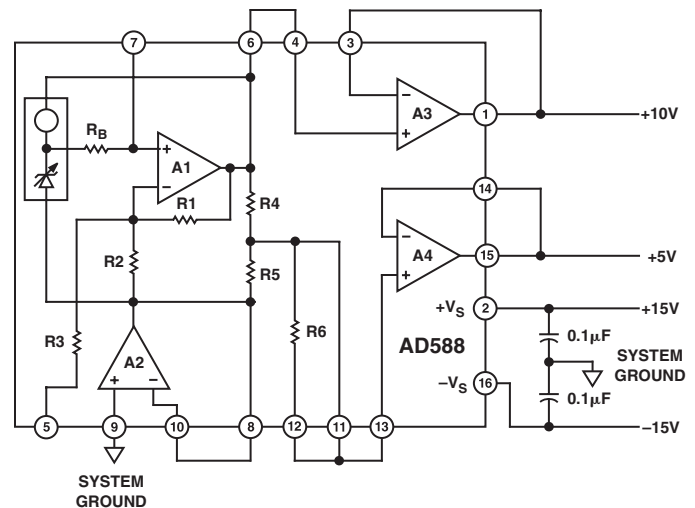
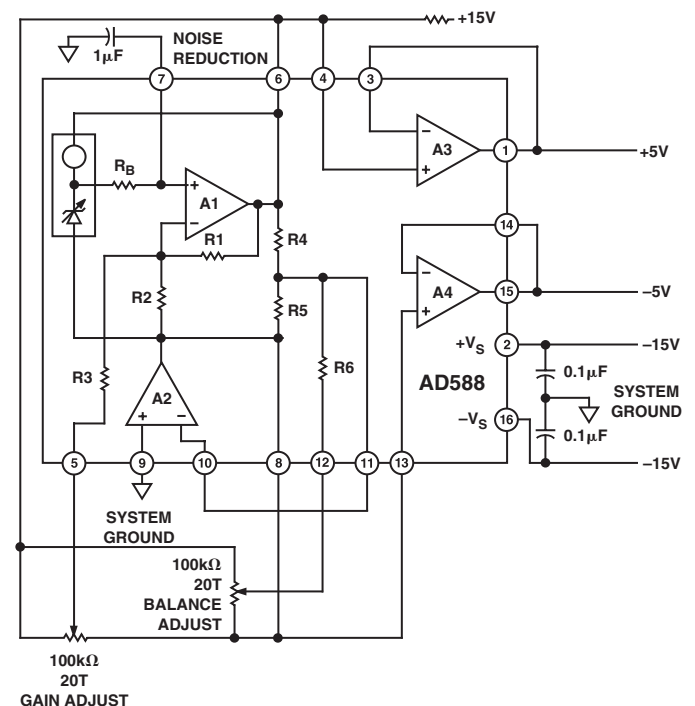
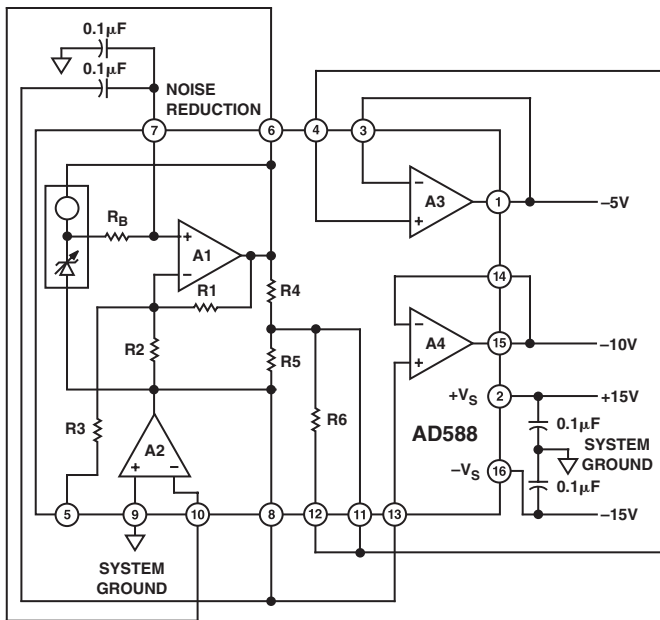
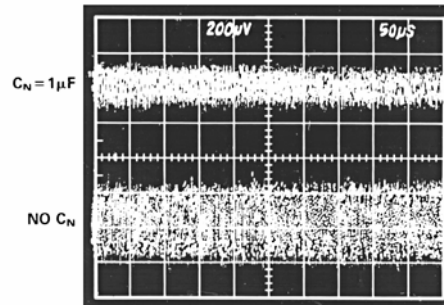

Figure 2a. +10 V Output
Figure 2b. +5 V and -5 V Outputs
Figure 2c. -10 V Output
Figure 4. Effect of 1 μF Noise Reduction Capacitor on Broadband Noise
+10 V	Figure 2a
-10 V	Figure 2c
+5 V, -5 V, ±5 V	Figure 2b
The AD588 can be configured to provide +10 V and -10 V reference outputs as shown in Figures 2a and 2c, respectively. It can also be used to provide +5 V, -5 V, or a ± 5 V tracking reference, as shown in Figure 2b. Table I details the appropriate pin connections for each output range. In each case, Pin 9 is connected to system ground and power is applied to Pins 2 and 16.
The architecture of the AD588 provides ground sense and uncommitted output buffer amplifiers that offer the user a great deal of functional flexibility. The AD588 is specified and tested in the configurations shown in Figure 2a. The user may choose to take advantage of the many other configuration options available with the AD588. However, performance in these configurations is not guaranteed to meet the extremely stringent data sheet specifications.
As indicated in Table I, a +5 V buffered output can be provided using amplifier A4 in the +10 V configuration (Figure 2a). A -5 V buffered output can be provided using amplifier A3 in the -10 V configuration (Figure 2c). Specifications are not guaranteed for the +5 V or -5 V outputs in these configurations. Performance will be similar to that specified for the +10 V or -10 V outputs.
Amplifiers A3 and A4 can be used interchangeably. However, the AD588 is tested (and the specifications are guaranteed) with the amplifiers connected as indicated in Figure 2a and Table I. When either A3 or A4 is unused, its output force and sense pins should be connected and the input tied to ground.
Figure 2b shows GAIN and BALANCE trims in a +5 V and -5 V tracking configuration. A 100 kΩ 20-turn potentiometer is used for each trim. The potentiometer for GAIN trim is connected between Pin 6 (V_{HIGH}) and Pin 8 (V_{LOW}) with the wiper connected to Pin 5 (GAIN ADJ). The potentiometer is adjusted to produce exactly 10 V between Pin 1 and Pin 15, the amplifier outputs. The BALANCE potentiometer, also connected between Pin 6 and Pin 8 with the wiper to Pin 12 (BAL ADJ), is then adjusted to center the span from +5 V to -5 V.
If further noise reduction is desired, an optional capacitor, C_N , may be added between the NOISE REDUCTION pin and ground, as shown in Figure 2b. This will form a low-pass filter with the 4 k Ω R_B on the output of the Zener cell. A 1 μF capacitor will have a 3 dB point at 40 Hz and will reduce the high frequency (to 1 MHz) noise to about 200 μV p-p. Figure 4 shows the 1 MHz noise of a typical AD588 both with and without a 1 μF capacitor.
Note that a second capacitor is needed in order to implement the NOISE REDUCTION feature when using the AD588 in the -10 V mode (Figure 2c.). The NOISE REDUCTION capacitor is limited to 0.1 μF maximum in this mode.